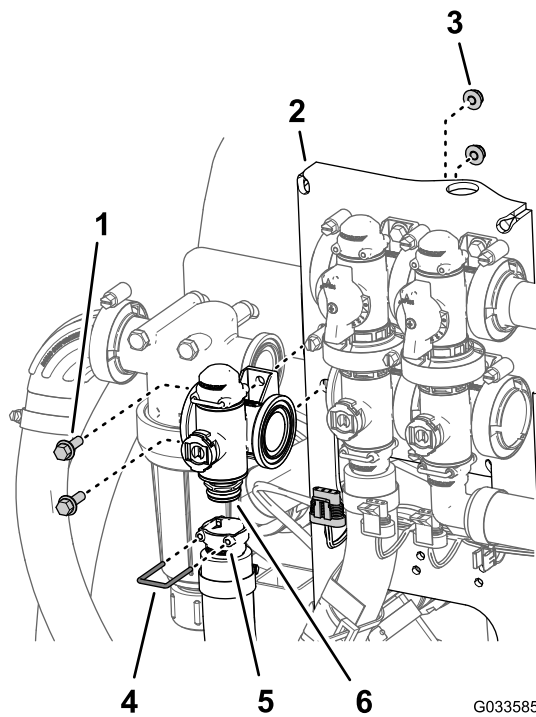

Figure 114
2. Remove the retainer that secures the outlet fitting to the manifold coupling for the rate control valve (Figure 114).
- Remove the 2 flange-head bolts (1/4 x 3/4 inch) and 2 flange locknuts (1/4 inch) that secure the rate control valve to the valve mount and remove the valve manifold from the machine (Figure 114).